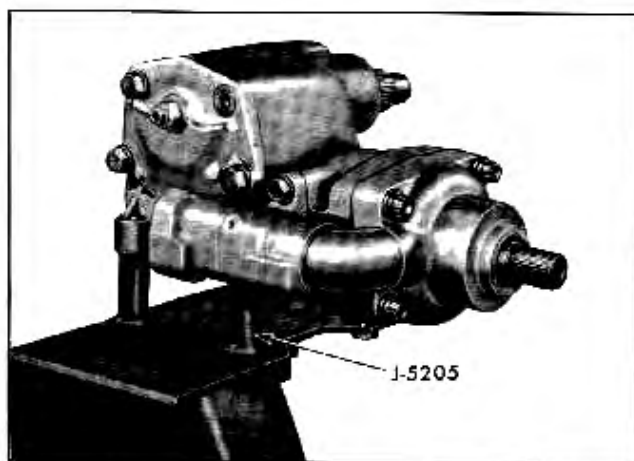

Fig. 9-26 Steering Gear Mounted on Tool J-5205
1. Mount steering gear on holding fixture J-5205 or J-6448-01 (Figs. 9-26 and 9-27), **NOTE:** If tool J-5205 is available it can be used for 1957 gear by grinding one supporting tube to give required clearance. Tool J-6448-01 is a two-piece tool (see page 9-39) also applicable on some other types of steering gears.